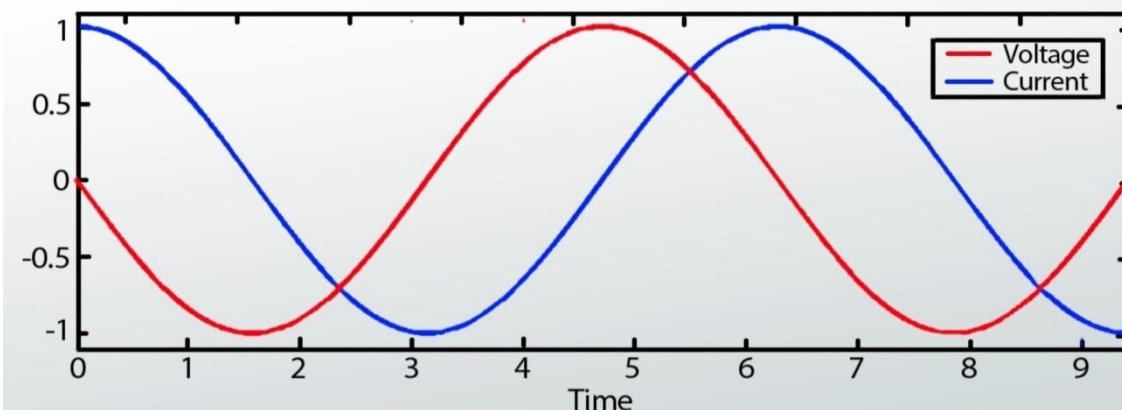

Figure 24: Impedance of AC Circuit
In alternating current (AC) circuits, impedance refers to the total resistance a circuit presents to the flow of alternating current, basically this is a combined measure of both resistance and reactance in the circuit; this is away to expand the concept of resistance to alternating current (AC) circuits where the current is constantly changing direction, and is represented by the symbol  $Z$  and the measurement is in ohms ( $\Omega$ ) see figure 24.